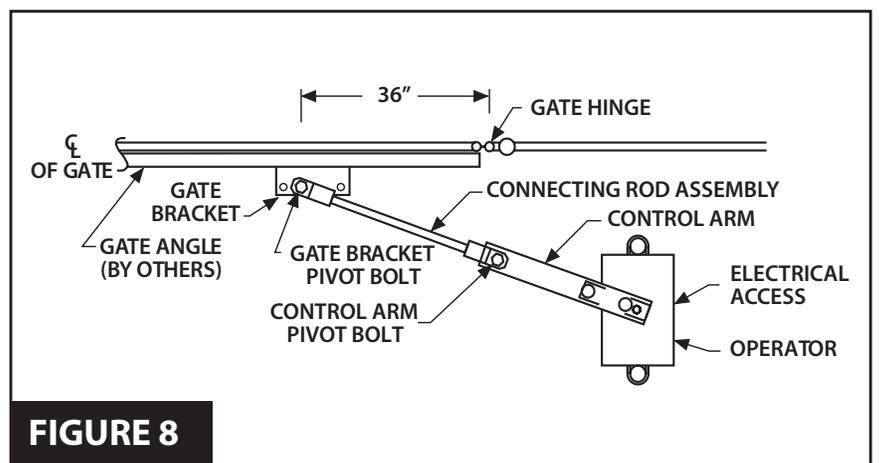

FIGURE 8
5. Locate gate bracket in position on gate, as shown in **Figure 8** and clamp in position.
6. Move control arm to its maximum close position. See **Figure 8**. Control arm and connecting rod must be straight in line.
- d. Move connecting rod bolt in gate bracket to a different hole. See **Figure 8**.